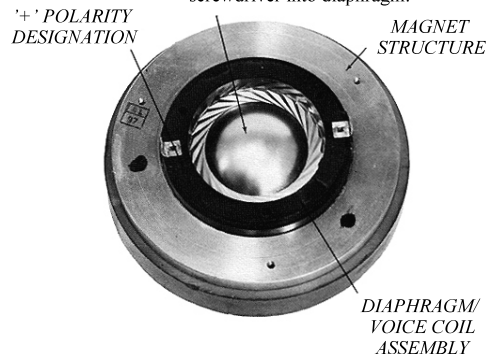

Figure 4. Typical Altec® 900-Series Diaphragm/Voice Coil Assembly
6. Carefully work diaphragm and voice coil assembly free. Remove assembly (see Figure 4).